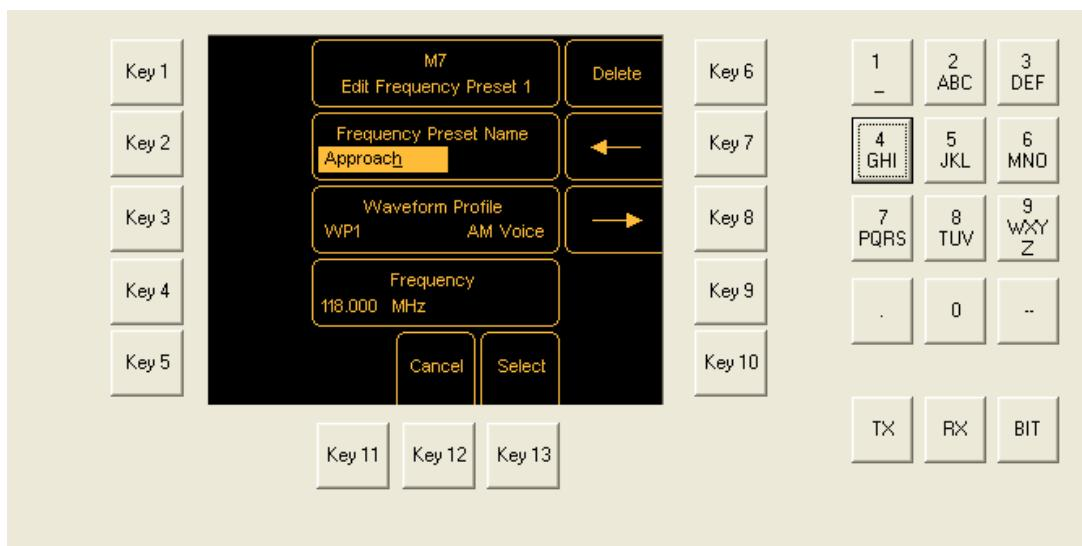

Fig 3-42 Edit Frequency Preset Name
- (3) The first parameter that can be changed is the Name. A frequency preset can have any name up to eight characters long. In this example, the default designation FP1 is being changed to 'Approach' as shown in Fig 3-42. To change the name, press Key 2 – Change. The new name can be entered using the alphanumeric keypad.